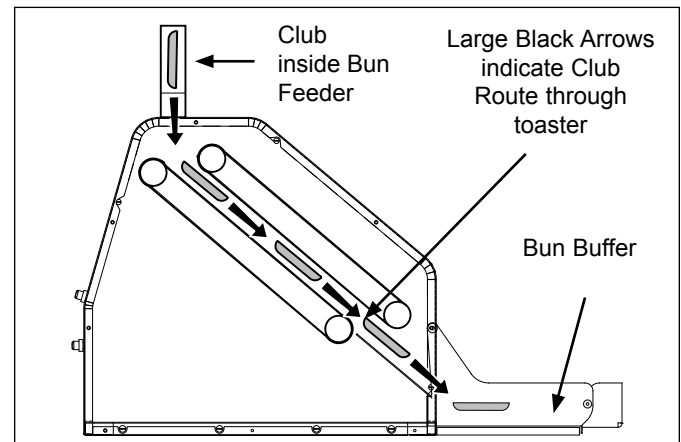

Figure 5. CTX-200 Toasting Route
2. Insert the club into Bun Feeder as shown in Figure 5.